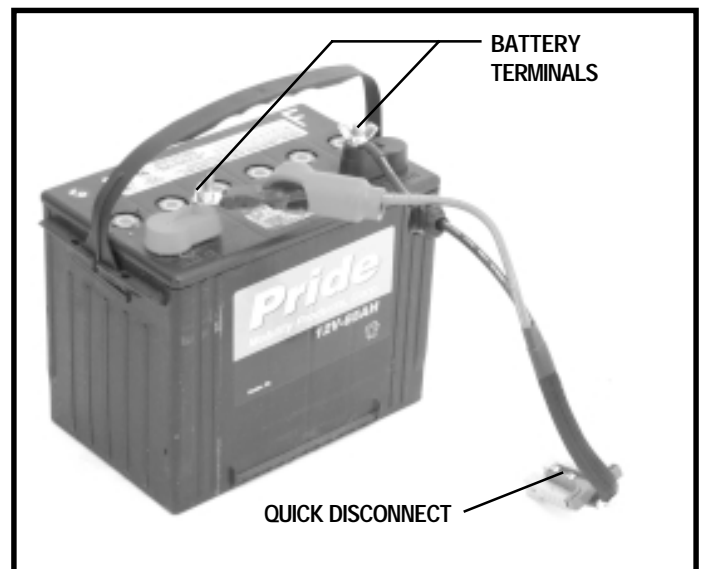

Figure 35. Battery and Harness
5. Locate the battery quick disconnects on the frame and disconnect both of them. See figure 35.
8. Reinstall the wiring harnesses on each battery. Make sure that you connect the red wire to the positive (+) battery terminal and the black wire to the negative (-) battery terminal. See figure 35.